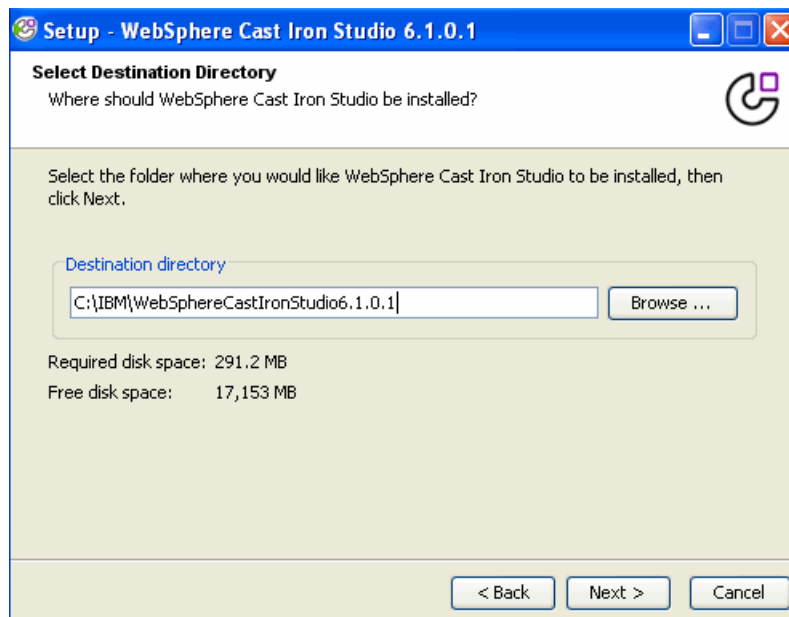

Figure 2-3 Studio installation path
4. At the Destination Directory panel, specify the installation path. The default path is the C:\Program Files\IBM\WebSphere Cast Iron Studio 6.1.0.1 directory. This example uses the reduced path of the C:\IBM\WebSphereCastIronStudio6.1.0.1 directory, as shown in Figure 2-3. Click **Next** to continue.